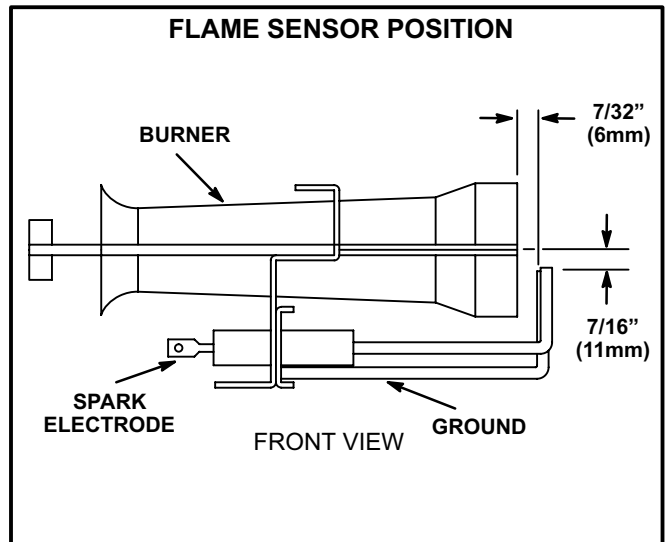

FIGURE 20
- 3- Remove the right burner and check the alignment of the ignition sensor. See figure 20.